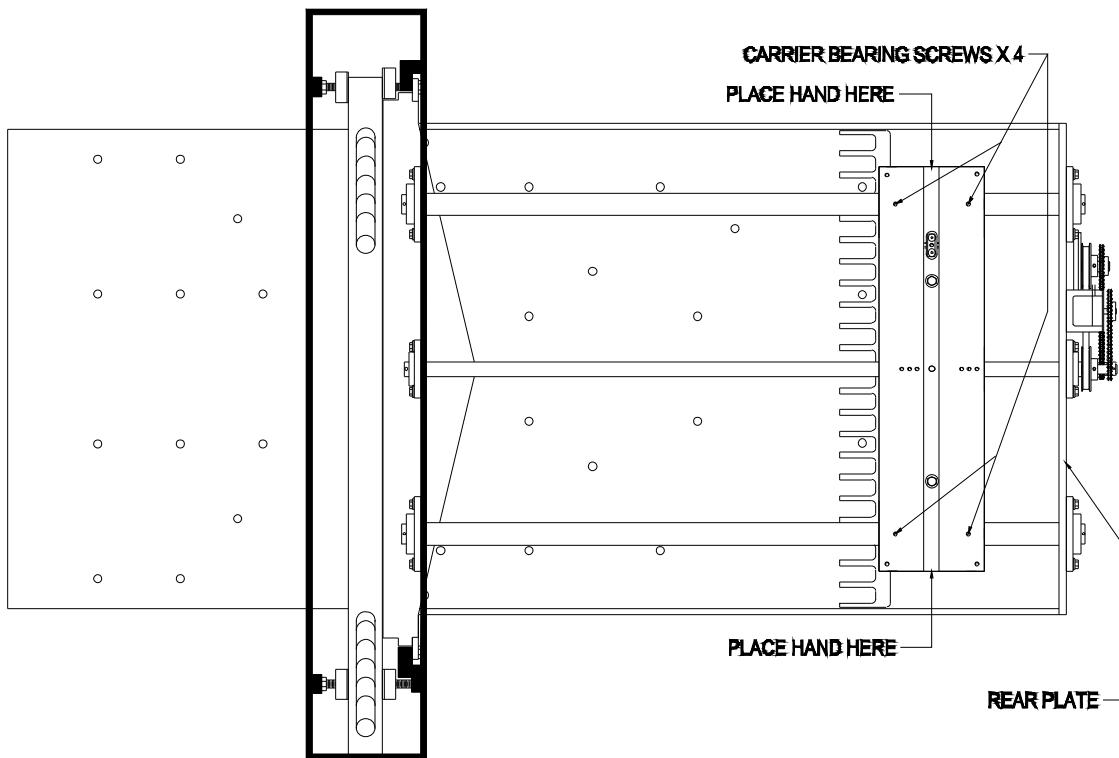

Fig. 36
2. Using a 1/8" Allen Wrench, tighten the carrier bearing set screws only if carrier twists on the guide rods. Figure 36 shows where to place your hands. Push and pull opposite ways to test for twisting movement. NOTE: Do not over tighten these screws! Backgauge binding can occur. Always use blue loctite on these screws if removed. Fig 36.